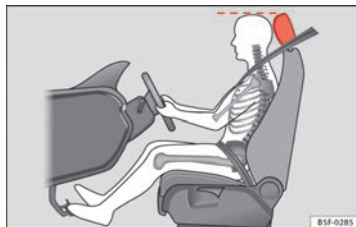

Fig. 2 Correct head restraint position for driver.
- Adjust the head restraint so that its upper edge is at the same level as the top of your head, or as close as possible to the same level as the top of your head ⇒ Fig. 2.